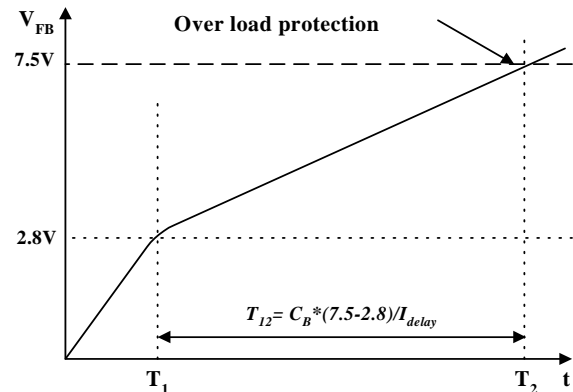

Figure 13. Over load protection
**4.1 Over Load Protection (OLP) :** Overload is defined as the load current exceeding its normal level due to an unexpected abnormal event. In this situation, the protection circuit should trigger in order to protect the SMPS. However, even when the SMPS is in the normal operation, the over load protection circuit can be triggered during the load transition. In order to avoid this undesired operation, the over load protection circuit is designed to trigger after a specified time to determine whether it is a transient situation or an overload situation. Because of the pulse-by-pulse current limit capability, the maximum peak current through the Sense FET is limited, and therefore the maximum input power is restricted with a given input voltage. If the output consumes more than this maximum power, the output voltage ( $V_o$ ) decreases below the set voltage. This reduces the current through the opto-coupler LED, which also reduces the opto-coupler transistor current, thus increasing the feedback voltage ( $V_{fb}$ ). If  $V_{fb}$  exceeds 2.8V, D1 is blocked and the 5uA current source starts to charge  $C_B$  slowly up to  $V_{cc}$ . In this condition,  $V_{fb}$  continues increasing until it reaches 7.5V, when the switching operation is terminated as shown in Figure 13. The delay time for shutdown is the time required to charge  $C_B$  from 2.8V to 7.5V with 5uA. In general, a 20 ~ 50 ms delay time is typical for most applications. This protection is implemented in auto restart mode.